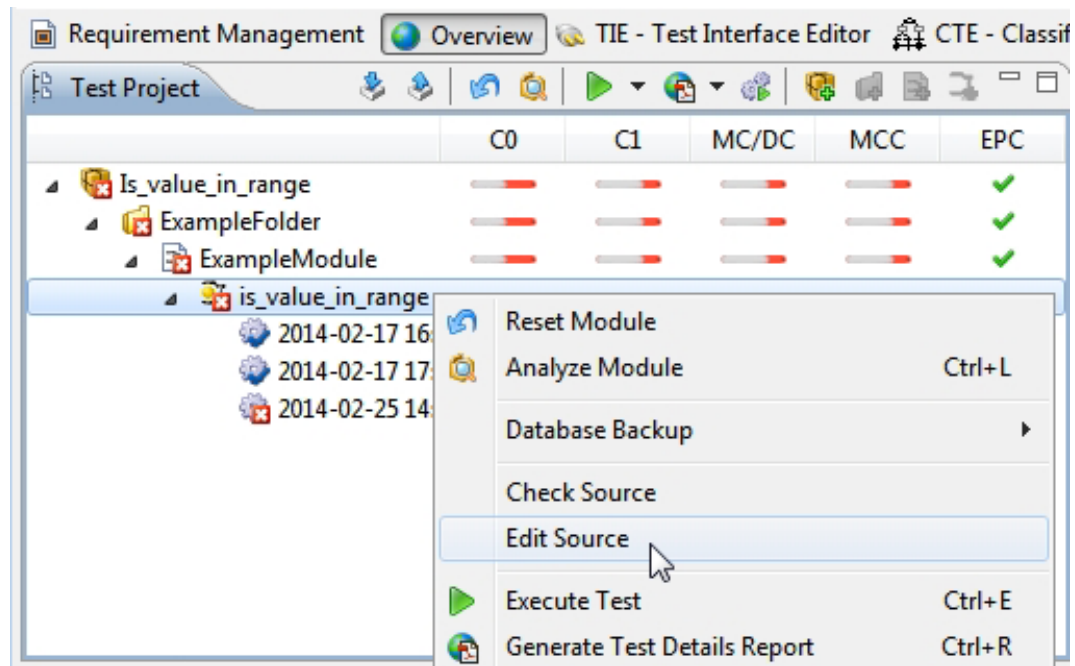

Figure 6.90: Opening the C/C++ perspective
- Select “Edit Source” (see figure 6.90).